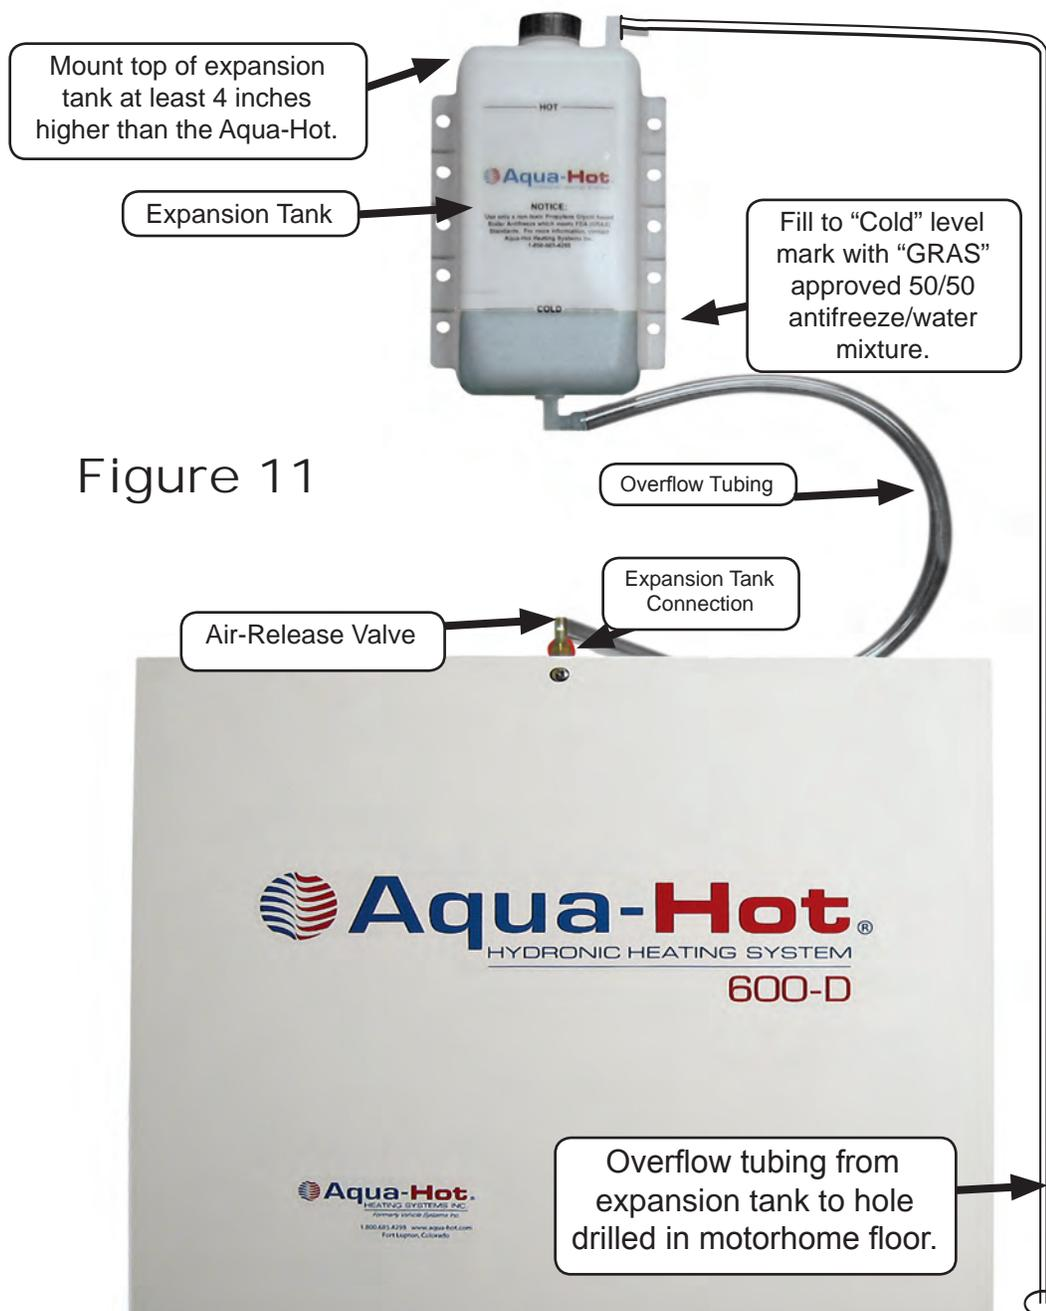

Figure 11
NOTE: The top of the expansion tank should always be mounted at least 4 inches higher than the highest point on the Aqua-Hot. Reference Figure 11.
1. Mount the expansion tank as illustrated in Figure 11.
2. Connect and clamp the overflow tubing from the expansion tank to the Aqua-Hot's expansion tank connection. Reference Figure 11.